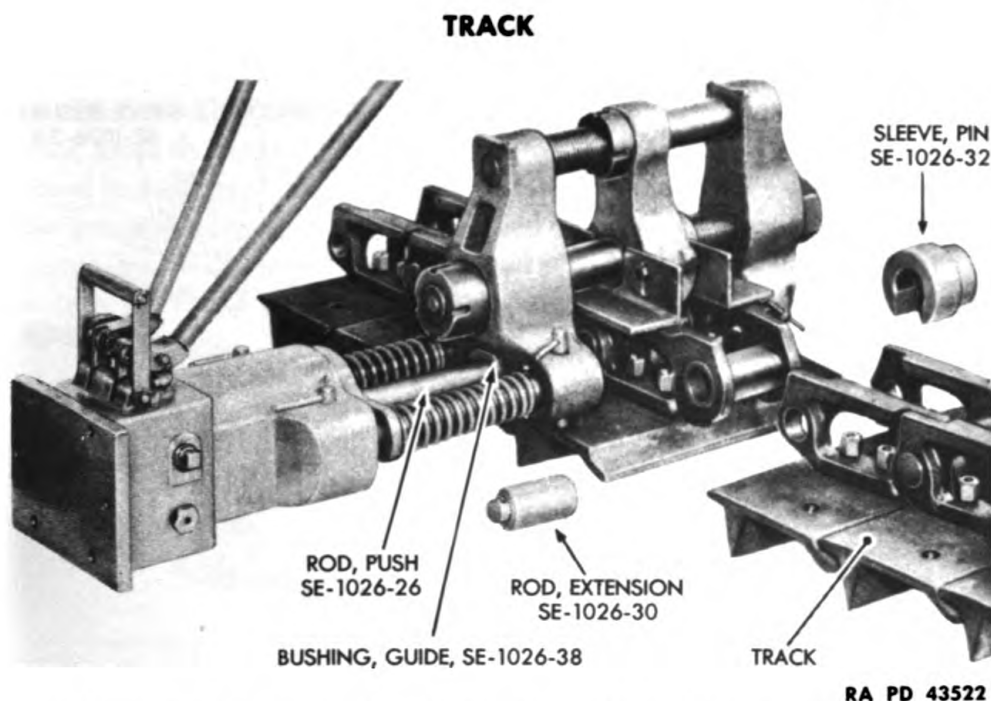

Figure 163 – Pushing Pin All the Way Out (Shoes Assembled)
(7) **PUSH TRACK PIN ALL THE WAY OUT (WITH SHOES ASSEMBLED TO LINKS)** (fig. 163).